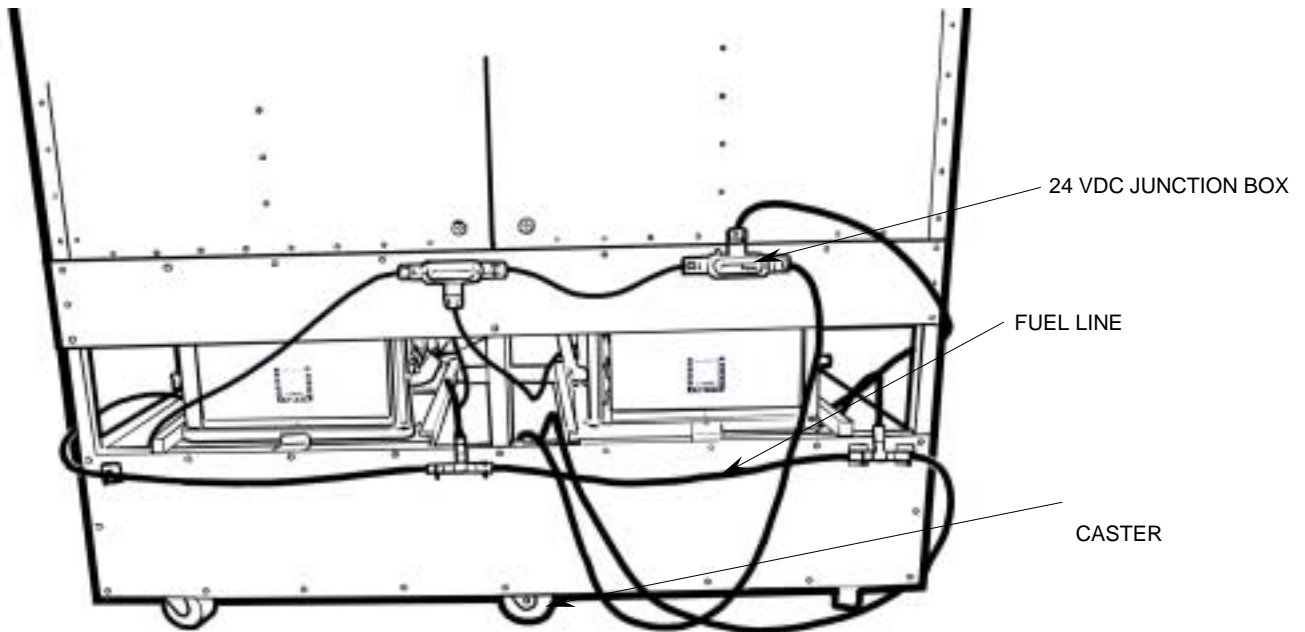

Figure 2. Dual Oven Assembly Fuel Line Maintenance.
**Fuel Line:** If the fuel line is inoperable because of a damaged connector or a cut or hole in the hose, replace the entire section of fuel line assembly by disconnecting the hose assembly and installing a replacement (see Figure 2).